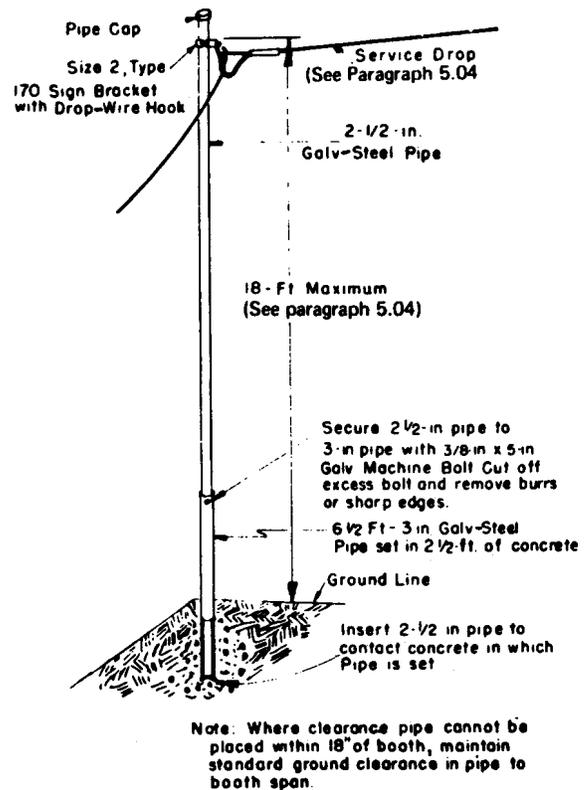

FIG. 11
5.03 Where a clearance mast is required, locate a 3-inch steel pipe at the rear of the booth and insert a 2 1/2-inch diameter steel pipe for a clearance pole as shown in Fig. 11.